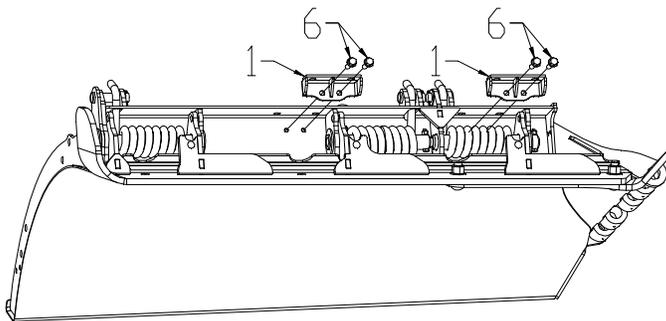

Figure 2. Drilled Holes Location G10813
- 2) On the Driver Side blade half of the plow, align Bolt-On Shoe Gusset (1) to the outer mounting location on the underside of the plow blade. The bracket will align with both backside and inside bolt holes. See Figure 2.
- 3) Attach Bolt-On Shoe Gusset (1) using two 3/8"-16 X 1-1/2" Self-Tapping Hex Head Cap Screws (6) threaded into the inside holes of the plow blade. See Figure 2.